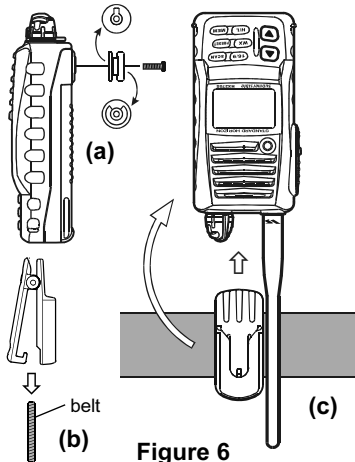

Figure 6
1. Connect the hanger to the rear of the **HX270S**, with the notch pointing directly up, using the supplied screw (Figure 6-a).
2. Clip the Quick Draw Belt Clip to your belt (Figure 6-b).
4. To remove the **HX270S** from the Quick Draw Belt Clip, Rotate the **HX270S** 180 degrees, then slide the transceiver out from the Quick Draw Belt Clip (Figure 6-c).